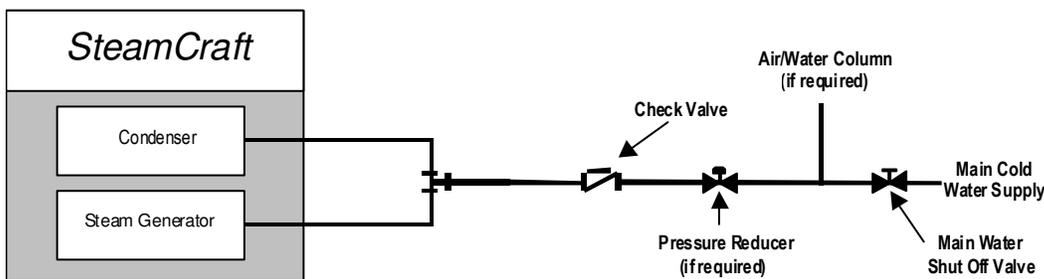

Figure 3-2 Cleveland Range Single Water Supply Arrangement
- d. If the water supply meets requirements shown in the Warranty then the Single Water Supply Arrangement shown in Figure 3-2 may be used.